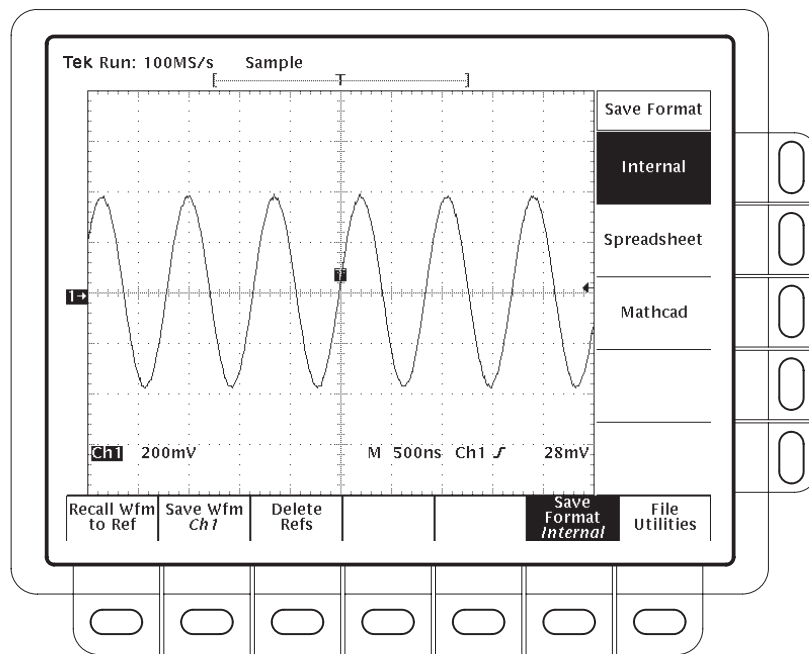

Figure 3-58: Save Format Menu
***NOTE.** Before doing step 3 on a TDS 400A, note the current Save Format (see Figure 3-58). If you desire to save to a different format, see To Select the Save Format on page 3-107.*
To select the format that the oscilloscope uses to save waveforms to a file, press save/recall **WAVEFORM** → **Save Format** (main) → **Internal**, **MathCad**, or **Spreadsheet** (side) (see Figure 3-58). Three formats are available: